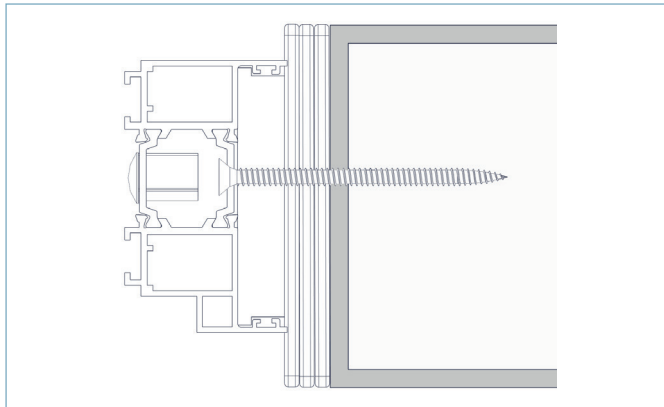

FIG 5C
► **5.4.** Align the bottom of the jambs with the end of the bottom track. Using frame packers between the jamb packers and the wall, level out the jambs in all directions and fix into position with your preferred fixings as shown in FIG 5C.